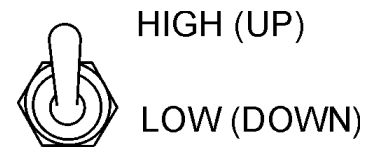

Figure 67. Engine Speed Switch (High)
3. Set the engine speed switch (Figure 67) to the "**High**" position.
1. Place both the **MAIN**, **GFCI** and **LOAD** circuit breakers as shown in Figure 67 to the "OFF position".